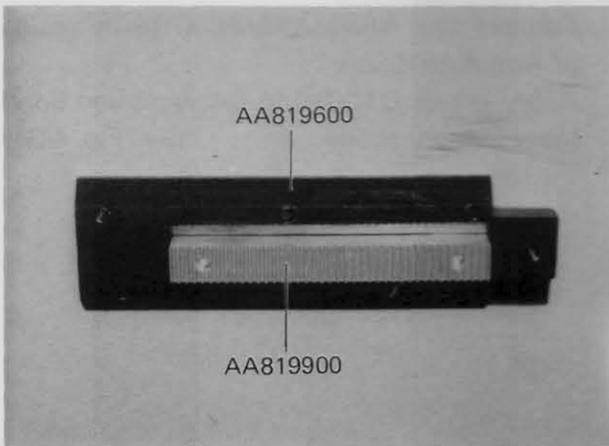

Fig. 4-31
a) Temporarily reassemble Rack AA819900 with Inner guide AA819600. (See Fig. 4-31)